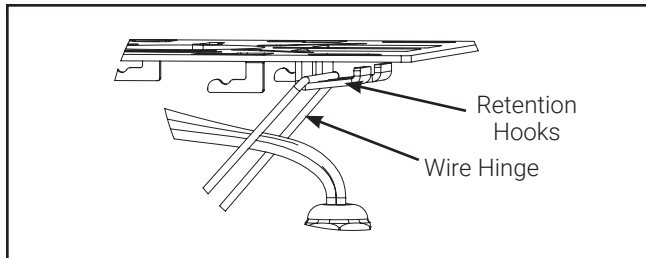

Figure 3A
4. Hang the luminaire to the quick mount plate by the wire hinge (FIG. 3A).
- Hang the luminaire to the quick mount plate by the wire hinge (**FIG. 3A**).